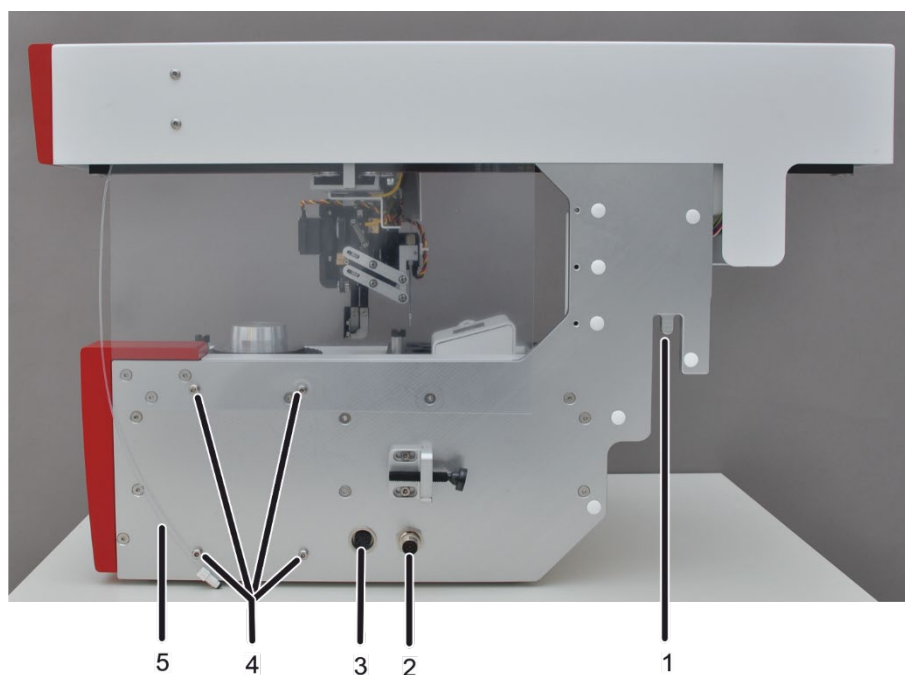
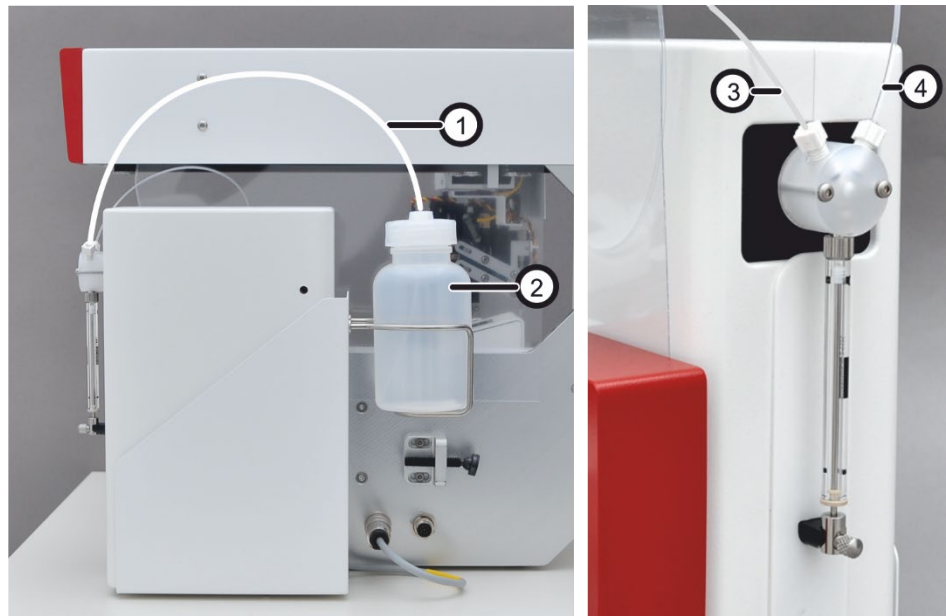

Figure 13 SSA 600 - Connections and functional elements in the basic device
Figure 14 Installing the liquid dosing unit
5. Connect the SSA 600 electrically to the AAS via the connection on the right side of the autosampler (2 in Figure 13).
7. Hook the liquid dosing unit into the 4 screws on the right side of the SSA 600 (4 in Figure 13).
8. Connect the liquid dosing unit electrically to the SSA 600 via the connection socket (3 in Figure 13).
9. Attach the dosing tube (5 in Figure 13) to the left-hand connection of the dosing syringe (3 in Figure 14).
10. Attach the tube for the purge solution on the right of the dosing syringe (4 in Figure 14). Place a bottle with purge solution (2 in Figure 14) into the holder. Immerse the tube (1 in Figure 14) through the opening in the bottle cap into the purge solution.